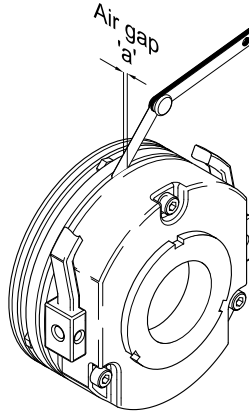

Figure 54 – Checking Traverse Brake Air Gap
The air gap 'a' (between the stator (5) and the armature plate (1)) should be checked in at least three positions around the circumference of the brake using non-magnetic feeler gauges (see Figure 54). The air gap should not exceed the maximum air gap of **0.6mm**.